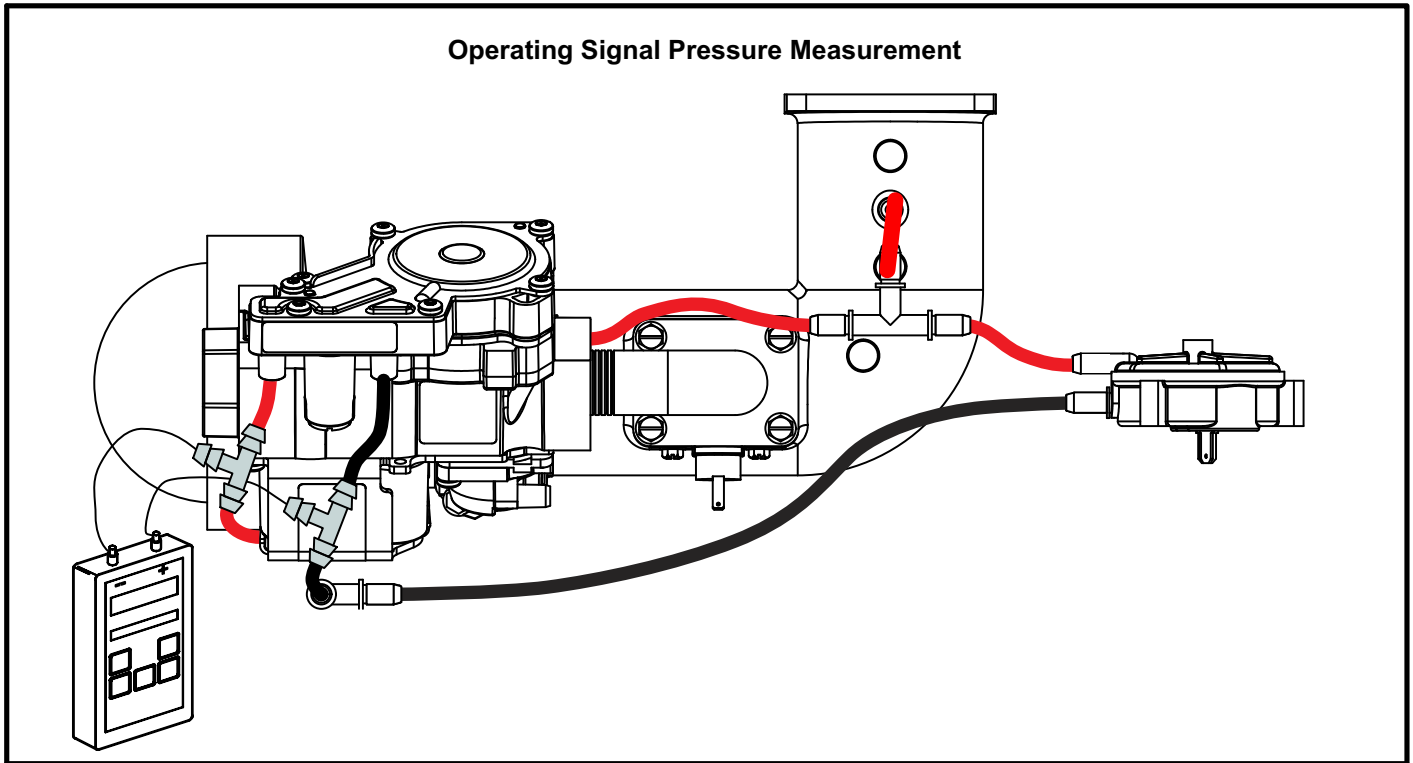

FIGURE 20
- 3 - Install hoses and meter as shown in figure 20 for signal pressure measurement.